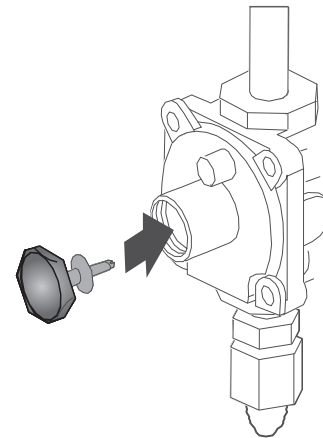

Figure 12
- 6** Screw the regulator cap back into the regulator and re-attach it to the nipple and flare union as shown. DO NOT over-tighten (see Figures 12 and 13).